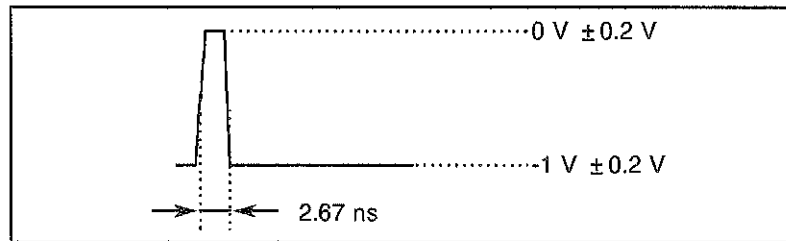

Figure 8-5 PATTERN TRIGGER Output Waveform (f = 12000 MHz, 5 ns/div)
- (7) Confirm that the waveform is a rectangular wave as shown in Figure 8-5. The pulse width is expressed in the following equation:
(7) Confirm that the waveform is a rectangular wave as shown in Figure 8-5. The pulse width is expressed in the following equation: